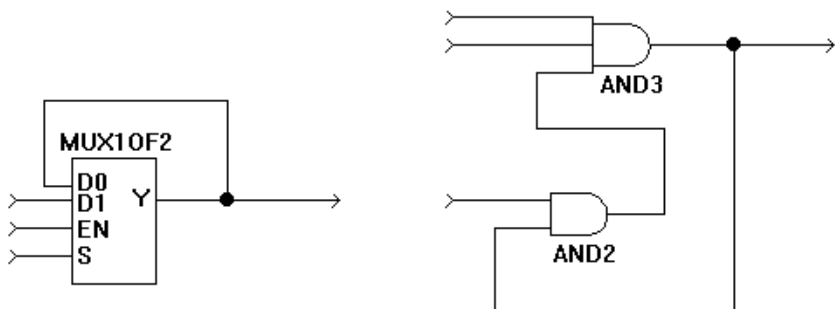

Figure 21 Examples of combinatorial loops (feedback)
- Avoid combinatorial loops. The ATVG tool cannot test combinatorial loops such as those shown in Figure 21. Logic driven by or driving these loops may be untestable.
The ATVG tool tries to use all of the flip-flops in the FPGA device for testing purposes. Clocking, setting, or clearing a flip-flop by internal logic renders the flip-flop useless to ATVG, reducing testability. Examples of logic structures that reduce testability in this way are shown in Figure 21.